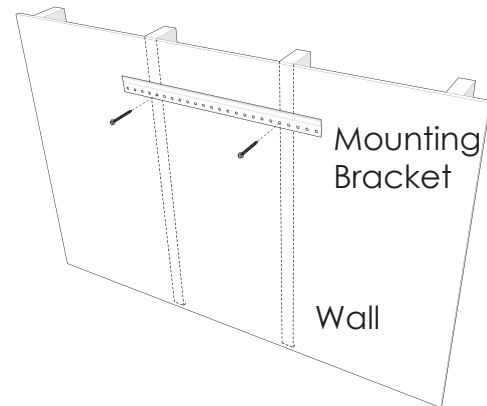

Fig. 9: Bracket mounted to wall supports
3. Fasten the Mounting Bracket into the wall supports with a high-strength, long fastener capable of supporting the cabinet (Fig. 9).